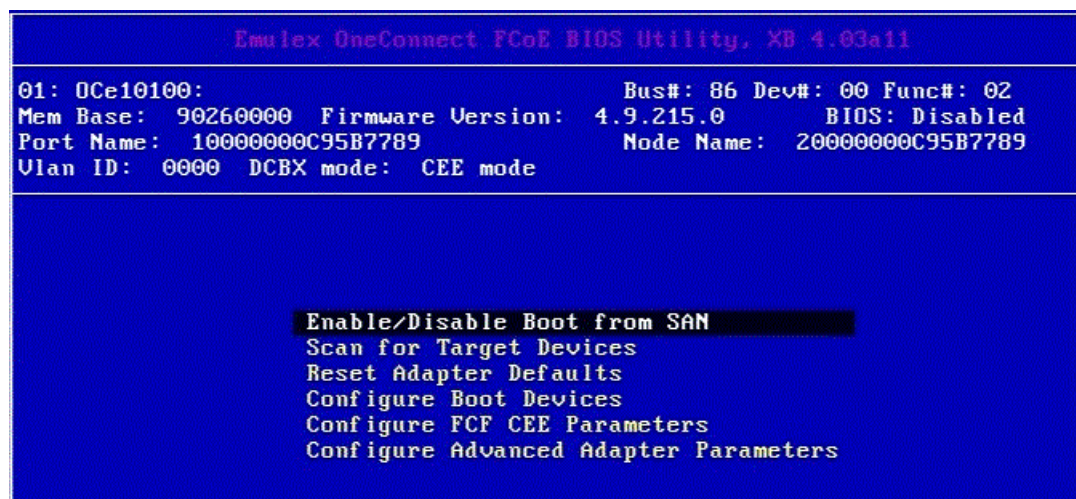

Figure 5-2 Main Configuration Menu
2. Select the adapter to configure and press <Enter>. The main configuration menu is displayed (Figure 5-2).
1. On the main configuration menu (Figure 5-2), select **Configure Boot Devices** and press **<Enter>**.